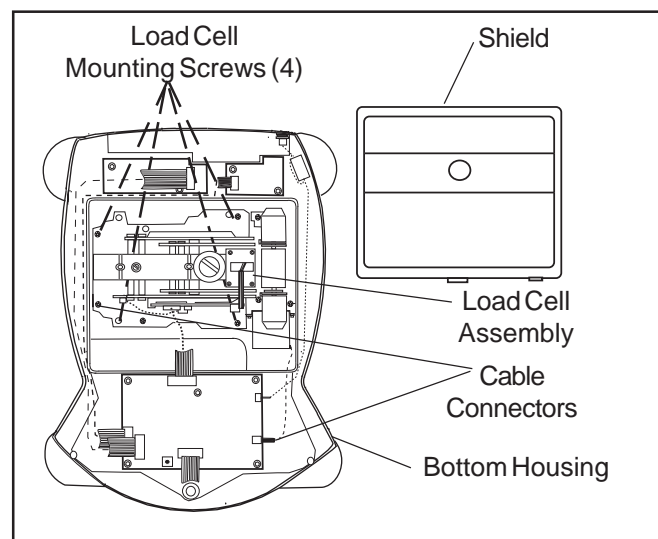

Figure 3-23. Removing MFR Load Cell.
Load Cell Kits are available for replacement purposes for all AV and AS model balances. Each Kit is assembled and consists of metal base plate, a Load Cell mounted to the base plate and a package of labels. Check the label on the balance and verify the capacity and model before ordering a new load cell kit. Figure 3-23 illustrates a typical MFR load cell location.
3. Remove the 4 screws and washers that secure Load Cell to the Bottom Housing. See Figure 3-23. Remove the Load Cell.